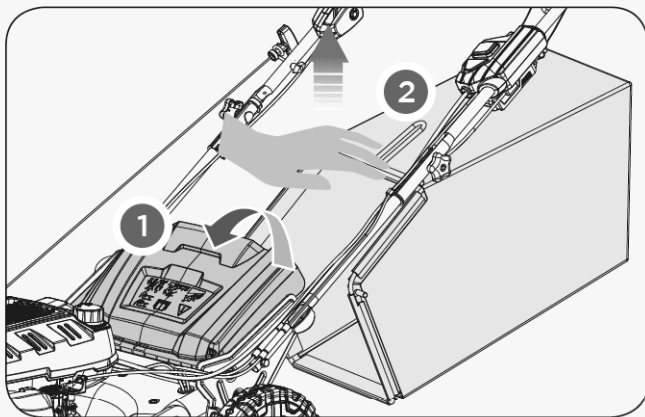

Figure 23
1. Flip the rear discharge door up. (See **Figure 23, illustration 1**)
2. Lift the grass catcher with the frame handle. (See **Figure 23, illustration 2**)